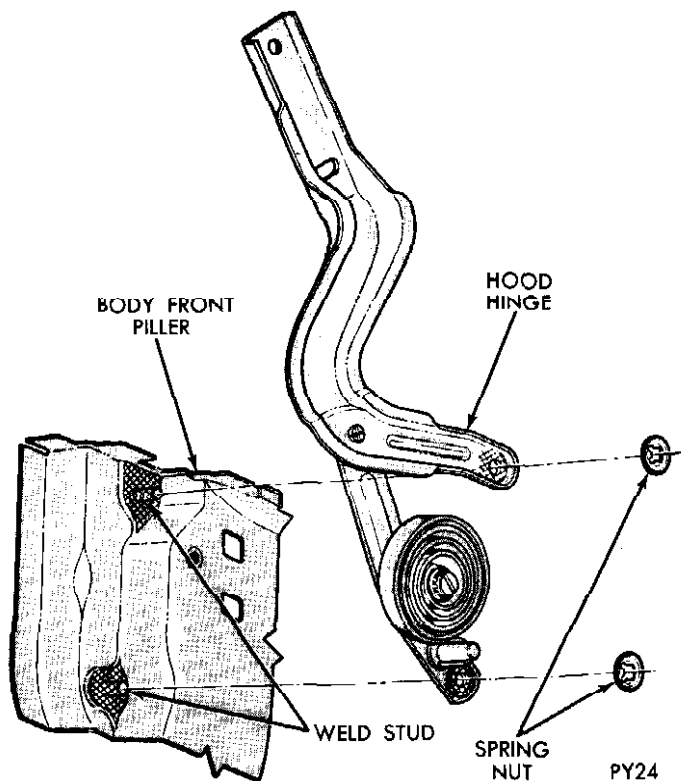

Fig. 2—Hood Adjustment
- (1) Place a protective covering over cowl and fender area.
- (2) Mark outline of hinges on hood to aid in installation.
- (3) With an assistant, remove hinge-to-hood bolts (Fig. 2) and remove hood assembly. **Use extreme care not to permit hood to slide rearward and damage painted surfaces of the cowl and fender areas.**
- (1) With an assistant, position hood on hinges and install hinge to hood bolts. Do not tighten.
- (2) Align scribe markings on hood with hinge and tighten screws lightly.
- (3) Close hood and inspect alignment.
- (4) Adjust alignment (Figs. 2 and 3) as necessary and tighten hood to hinge bolts 180 inch-pounds.
- (5) Remove protective covering from cowl and fender area.
- (1) Disengage torsion bar roller from hood hinge.
- (2) Scribe hinge location on hood and remove hinge to hood screws.
- (3) Support hood at hinge area.
- (4) Remove hinge stud spring nuts from studs (Fig. 2) and remove hinge.
- (5) Lubricate hinge stud areas with lubriplate and position hinge on studs.
- (6) Using a socket with putty placed on end, position a new spring nut on putty and position on stud.